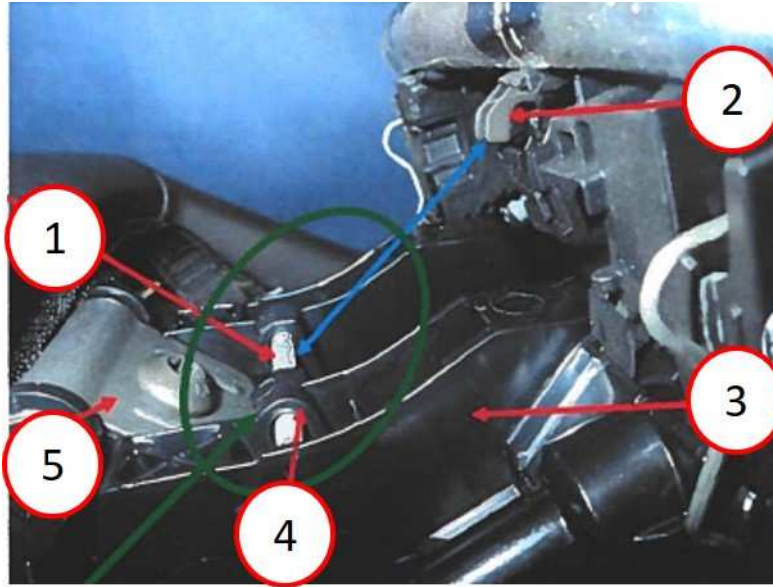
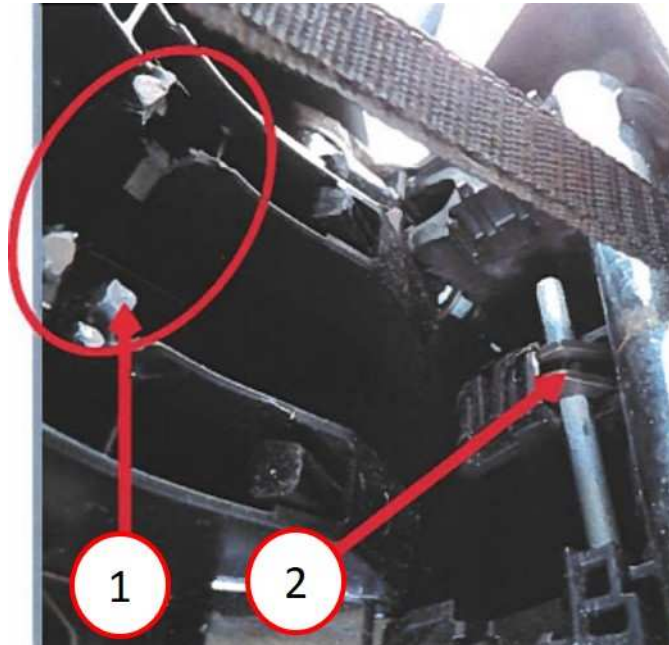

Fig. 1
Fig. 2
1. Verify the sled bracket striker pin is attached to the sled bracket (Fig. 1) and (Fig. 2) .
2. Is the striker pin attached to the sled bracket (Fig. 1) ?
- NO >>> The striker pin is locked in the AHR latch (Fig. 2) . Proceed to Step 1 of the Repair Procedure.